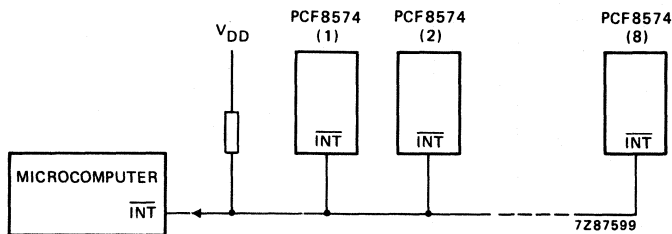

Fig. 14 Application of multiple PCF8574s with interrupt.
**Interrupt** (see Figs 14 and 15)